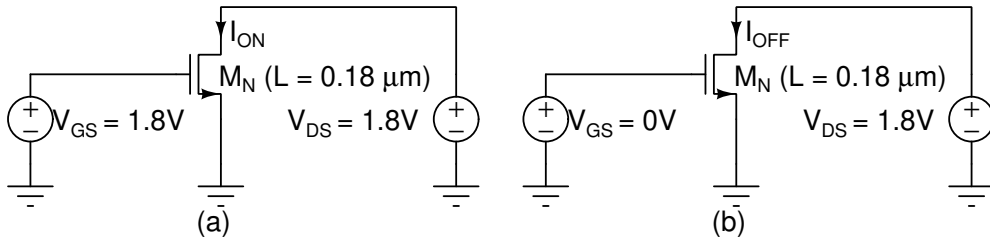

Figure 2
5. Consider the circuits shown in figures 2(a) and (b). Find the peak I_{ON} and average I_{OFF} for $W = 1.8\mu\text{m}$, $W = 3.6\mu\text{m}$, $W = 18\mu\text{m}$, $W = 36\mu\text{m}$. (Give plot snapshots and a table of I_{ON} and I_{OFF} for different W.) Do I_{ON} and I_{OFF} scale linearly with respect to W, comment.